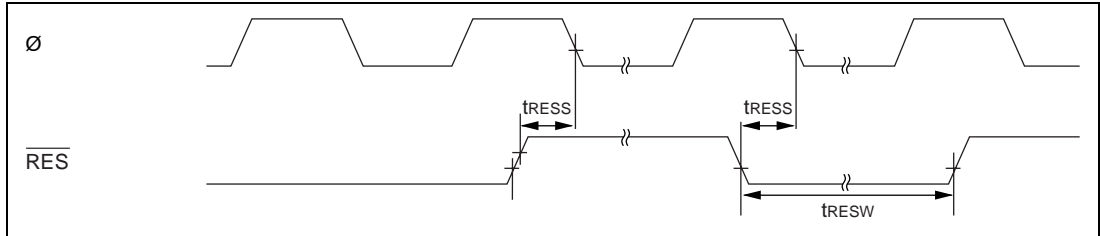

Figure 16.6 Reset Input Timing
16.3.2 Control Signal Timing	Figures 16.6 to 16.9